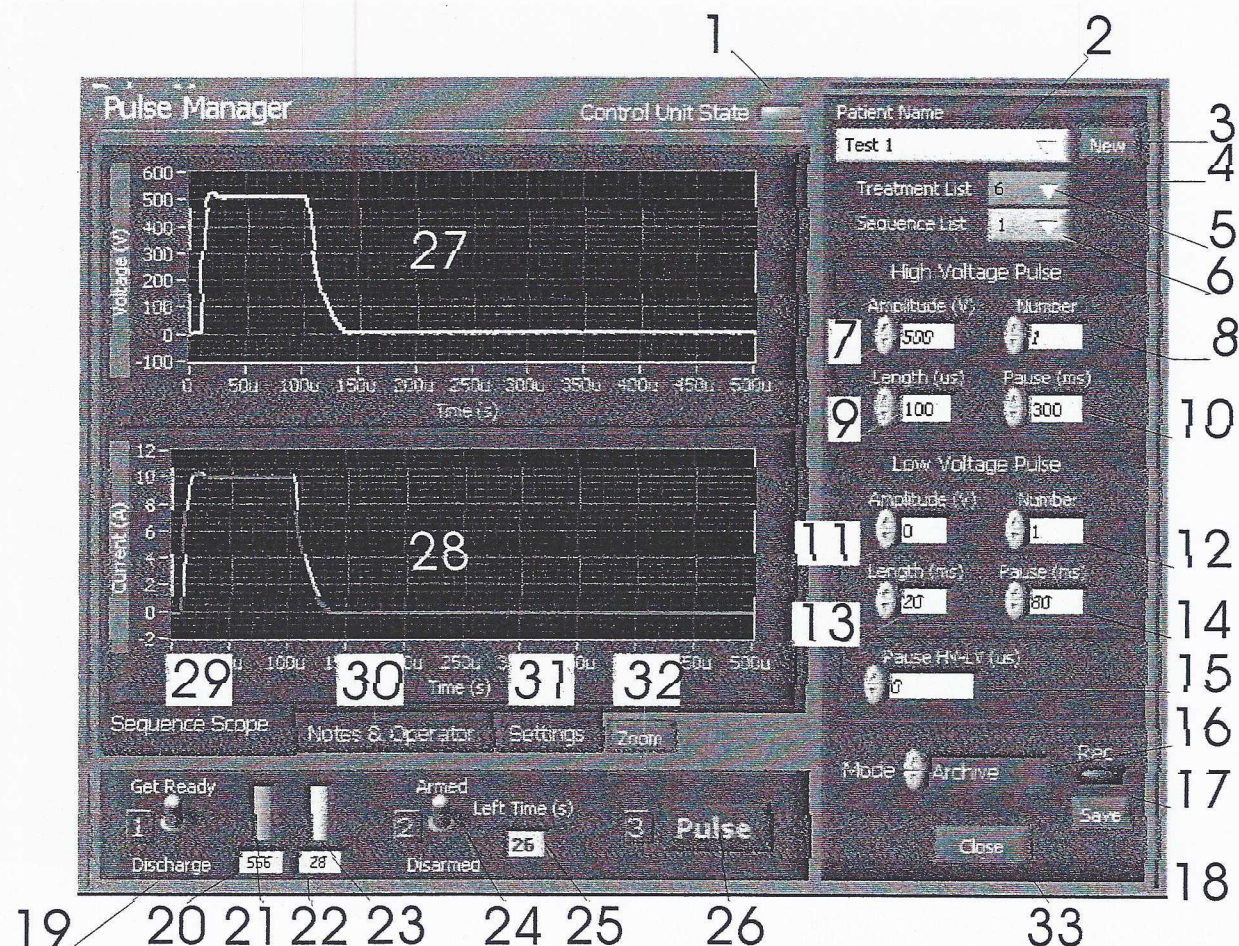

Figure 5. The Pulse Manager Screen.
Pulse Manager Screen (see Figure 5) presents:
29. **Sequence Scope** tab button. Click on **Sequence Scope** tab button switches the to **Sequence Scope View**. (Figure 5).